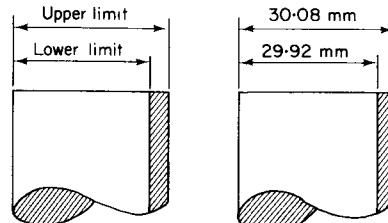

Fig. 4.10 Limits
**Limits.** It is impossible to make anything to an *exact* size. One way of getting over this difficulty is shown in Fig. 4.10 where two dimensions have been placed on